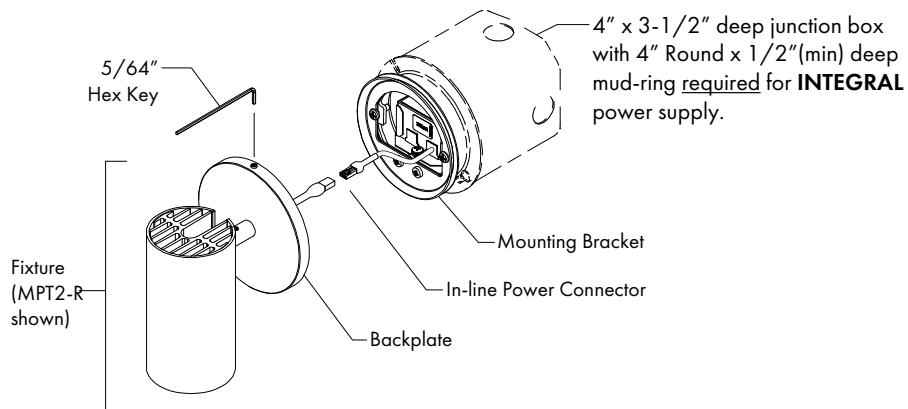

FIG 1.4 Lens Assembly & Accessories
Step 3 After ceiling or wall installation and wiring is complete, install Mounting Bracket to mud ring. Locate In-line Power Connector and connect Fixture to Power Supply. Position Fixture Backplate as desired and tighten set screw in Backplate - **FIG 1.4**.